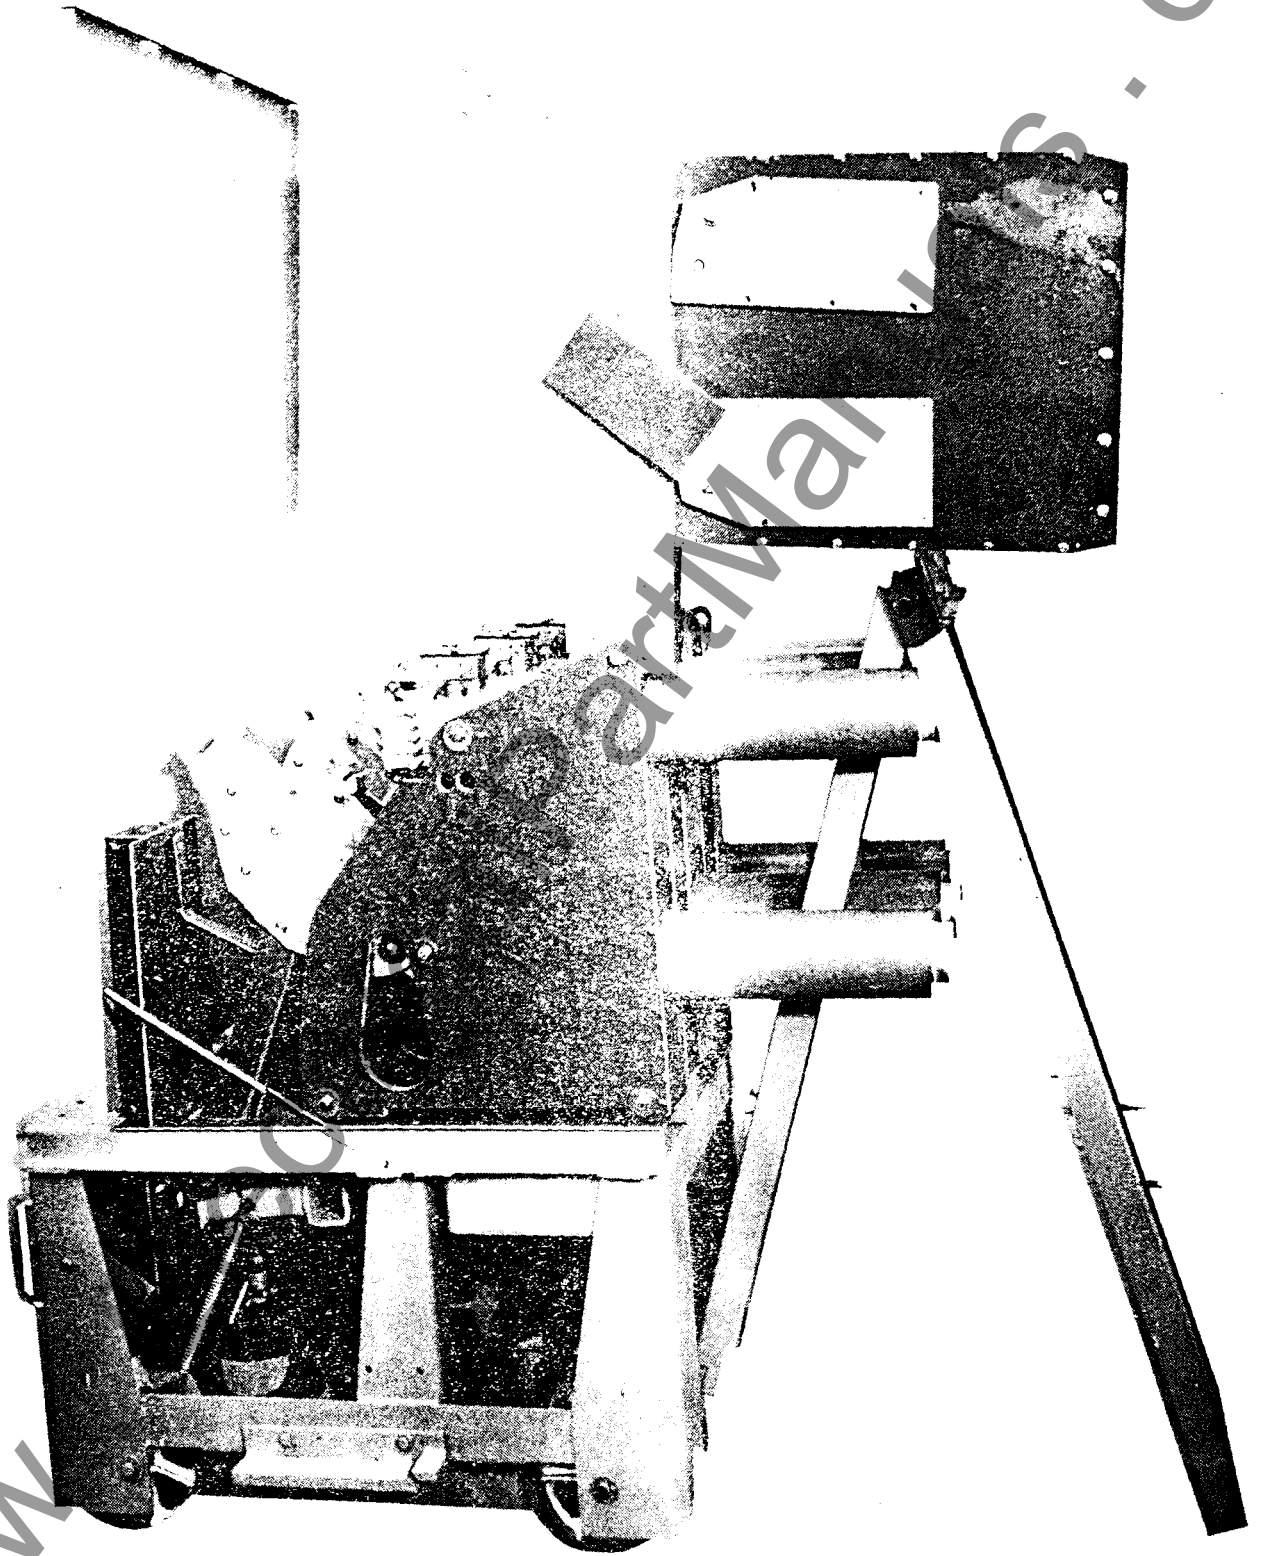

Fig. 2A - An. Clutch Assembly in Position
2. Tilt the arc chutes to expose the main contacts. (Refer to Page 10 and Fig. 2A, Tilting Arc Chutes).
The air output from the puffer nozzle may be checked with the arc chutes tilted (refer to "Tilting Arc Chutes", Page 11 and Fig. 2A. Crush a 4-1/2 x 4-1/2 inch (115 x 115 mm) sheet of tissue paper, place it in the nozzle opening and check to see that it is dislodged when the breaker is opened.